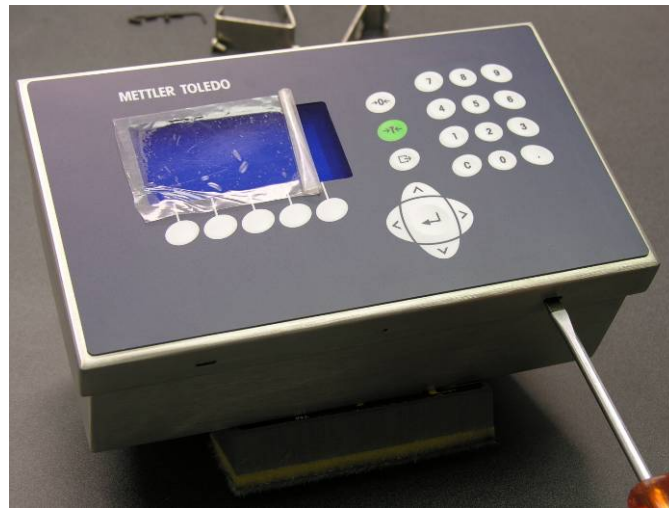

Figure 2-2: Opening the Harsh Enclosure
1. Insert the tip of a flat-blade screwdriver into one of the two slots located on the bottom of the front panel assembly (see Figure 2-2) and gently push in toward the enclosure. A "pop" sound is made when the cover is released.